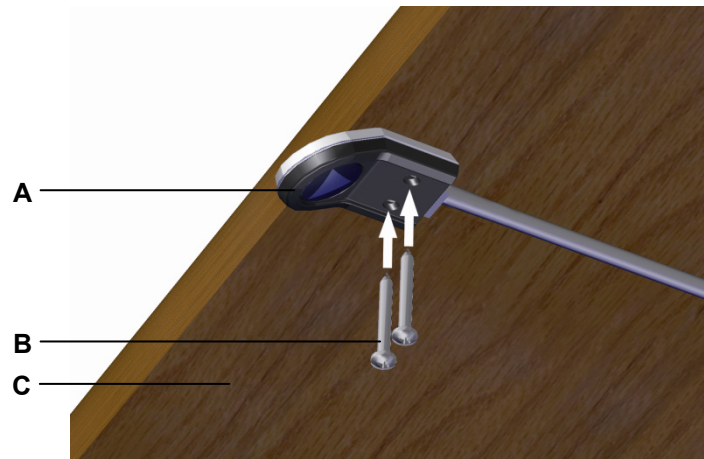

Figure 22 Example: Mounting the Motion Assist control keypad
Two screws are used to attach the Motion Assist control keypad to the underside of the table (at the table's front edge), as shown in Figure 22.
- ▶ Example: Use screws (B in Figure 22) which meet the requirements of DIN 7981 with \varnothing 3.9 mm and of suitable length (10 mm plus the screw-in depth into the table), screw head: \varnothing 7.5 mm.